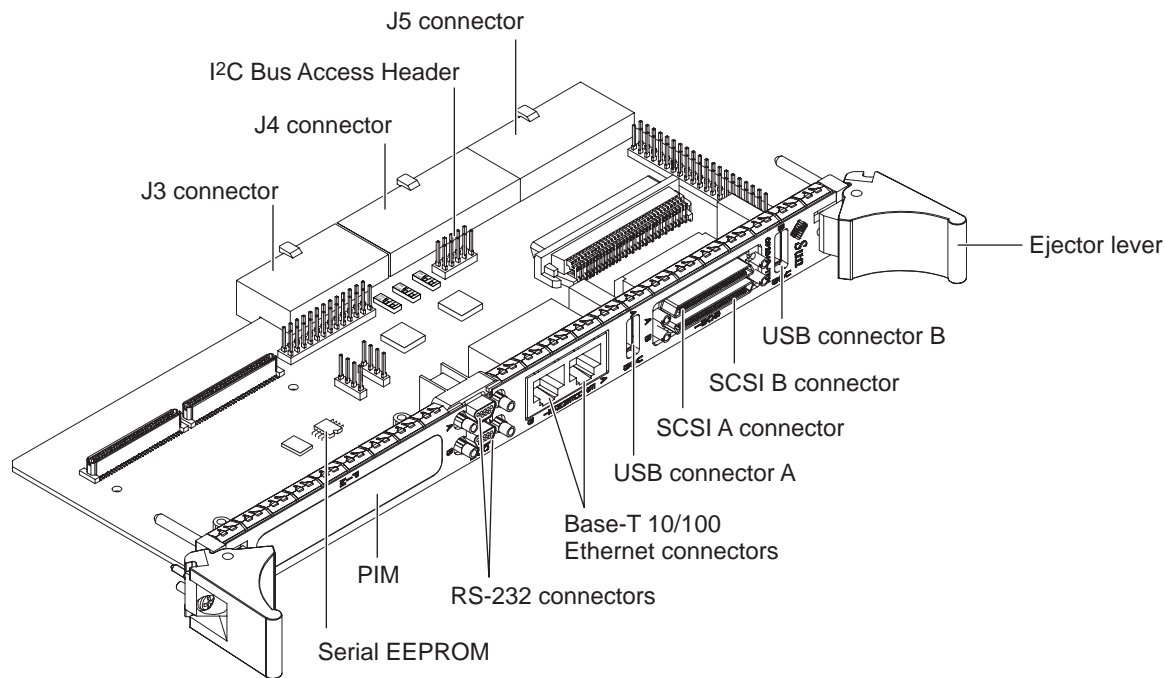

FIGURE 5-3 XCP2040-TRN Transition Card
- XCP2040-TRN I/O Transition Card (see FIGURE 5-3). This board is compatible with the Netra CP2040 board only.
FIGURE 5-3 shows the XCP2040-TRN Transition Card.